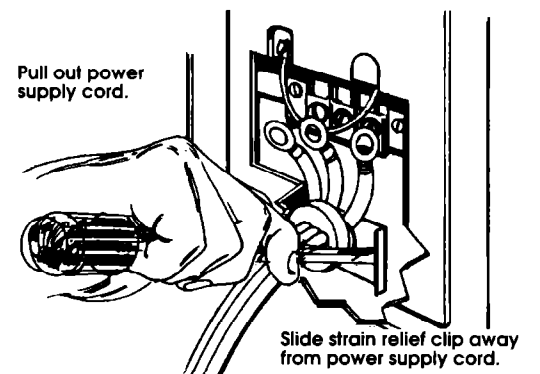

Figure 8
4. Use a screwdriver to slide the strain relief clip away from the power supply cord. (See Figure 8).
5. Pull downward on the power supply cord until it is removed from the dryer. (See Figure 8).